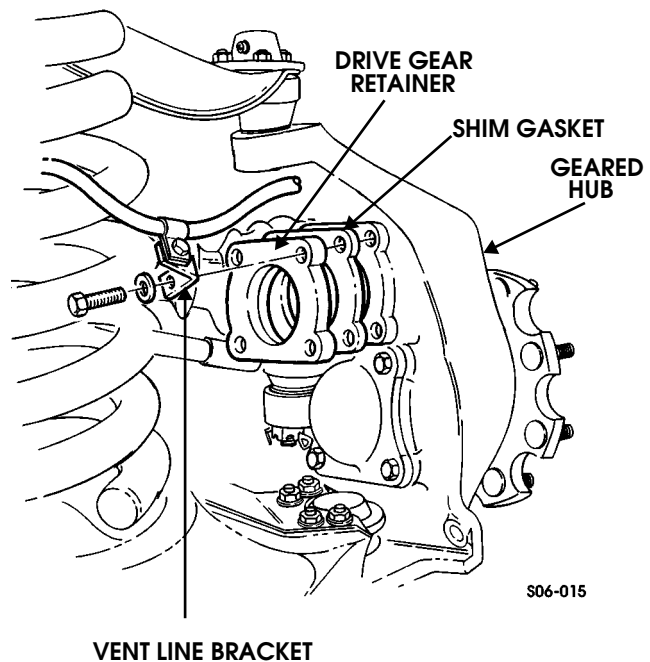

Figure 9-18: Geared Hub Shim Gasket Location
4. Remove bolt, washer, and vent line bracket from drive gear retainer (Figure 9-18).
2. Secure shim gasket(s) and drive gear retainer to geared hub with three washers and bolts. Tighten bolts to 38 lb-ft (52 N•m) (Figure 9-18).